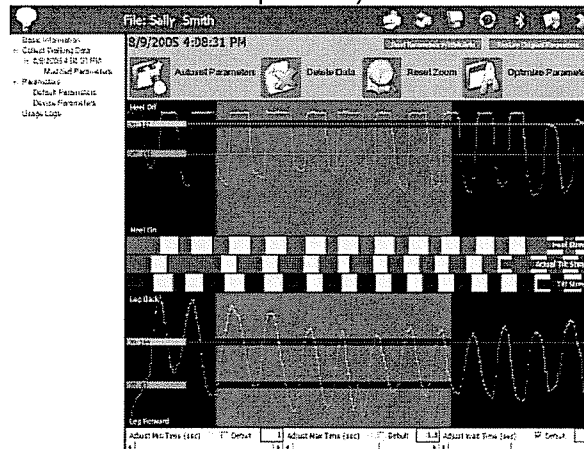

Figure 24 – Zoom screen.
2. Click on the '**Optimize Parameters**' button. Choose the desired reference signal (i.e. Heel or Hand) and the signal to be optimized (i.e. Tilt or Heel) and press the '**Start Computation**' button (Figure 24). This process takes a few seconds and will automatically modify the thresholds and time(s) in the tilt data to best match the desired reference signal.
3. A subset of the collected data may be selected for analysis by clicking in either the Heel or Tilt Sensor window and dragging the light pink zoom box over the “good” data (Figure 24). If selected first, the ‘**Autoset Parameters**’ and ‘**Optimize Parameters**’ buttons will set parameters based only on the selected data. (This may be appropriate for a client with limited walking abilities or an inconsistent walking trial that could not be repeated.)